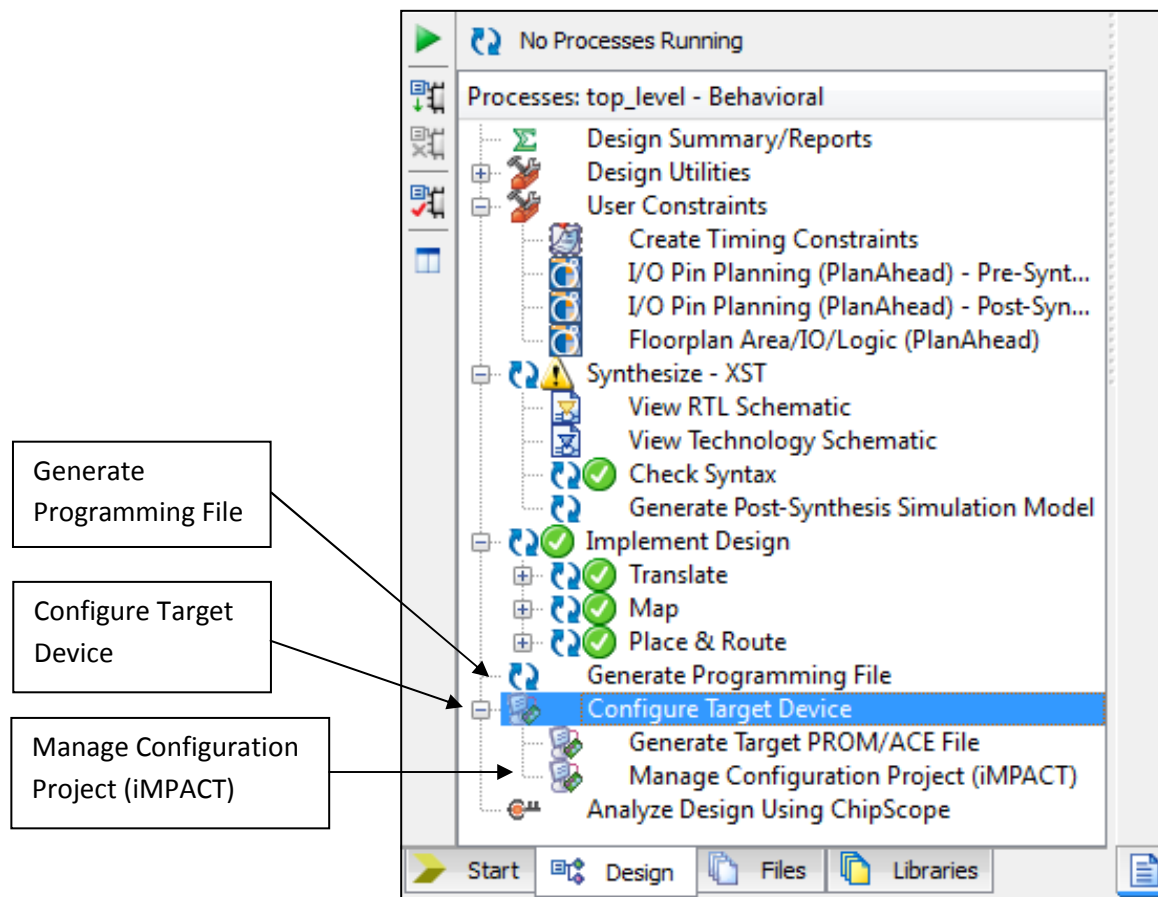

Figure 6.47: Portion of Project Navigator screen, with Implement Design expanded.
1. As shown in Figure 6.47, click on the '+' next to **Configure Target Device**. This will expand out to show the **Manage Configuration Project (iMPACT)** option.